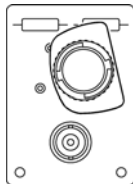

Figure 12 Signal to -Input
- 4** Connect the input of the Probe Amp to the test board in the position shown in Figure 12.
- 8 Connect the Probe Amp to measure a negative voltage as shown in Figure 12 on page 30.